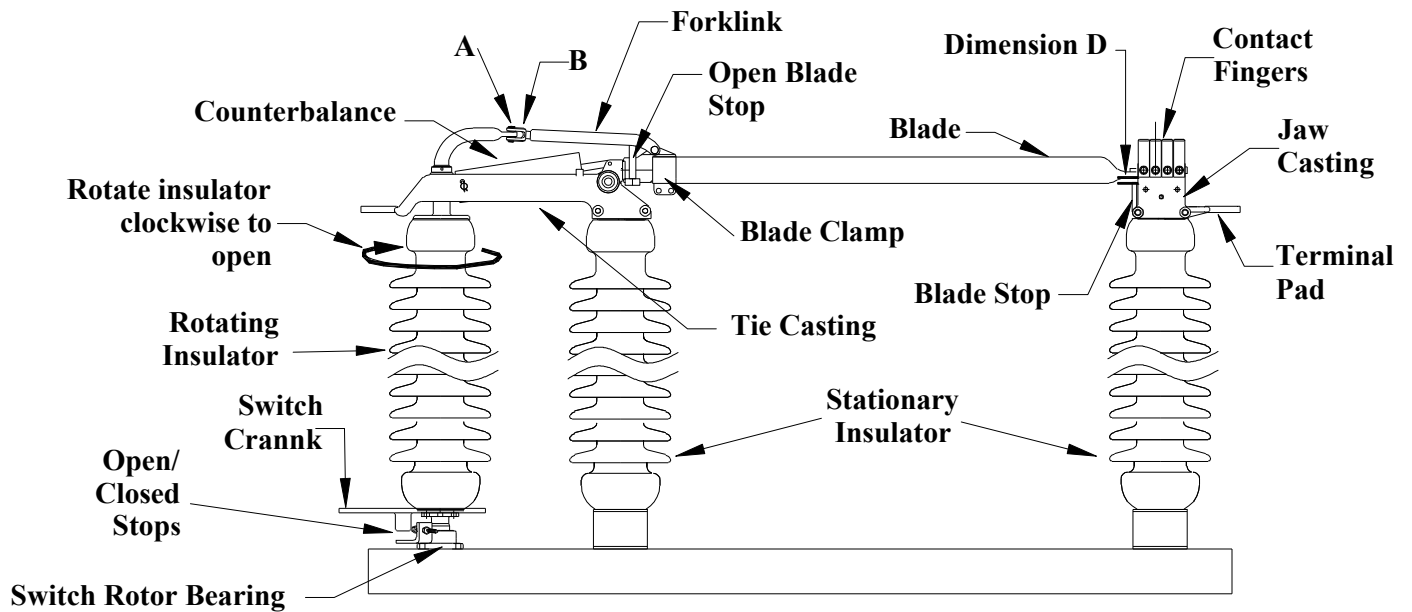

Fig. 4 Typical Single Pole Assembly
CAUTION: When uncrating switches having blade counterbalances (Fig. 4) with insulators not mounted, open the switch blade to relieve the pressure of the counter balance before removing the live parts from the base.
Blade Height in Jaw—In Fig. 4, **dimension (D) can vary from 1/8" to 3/8"** for 600 thru 3000A with the switch in the closed position. The blade contact should be between the contacts springs. The blade does not need to rest on the jaw stop. The purpose of the jaw stop is to prevent the blade contact from going under the jaw contacts. It is not usually possible to get this dimension to be equal on all three poles of a three-pole switch. If it's necessary to adjust this dimension, remove connecting pin (A) and turn clevis (B) in or out 1/2 turn then reconnect and try switch. *Note: clevis assembly is a left hand thread connection!* Turning the clevis in will move the blade away from the blade stop. Conversely, turning the clevis out will move the blade closer to the blade stop. Their adjustment is to adjust the blade height in the jaw. It is not used for rotation of the blade.
Open Blade Stop— For horizontal mounting position only, there are stops in the live parts for the blade in the open position located on the fork link, as shown in Fig. 4. Lengthening the stop bolt will decrease the open blade angle. Shortening the stop bolt will increase the blade angle. After each pole has been adjusted, set the open and closed stop bolts of each rotating insulator.